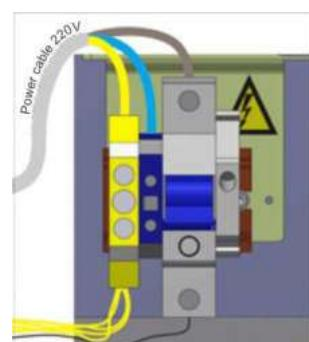
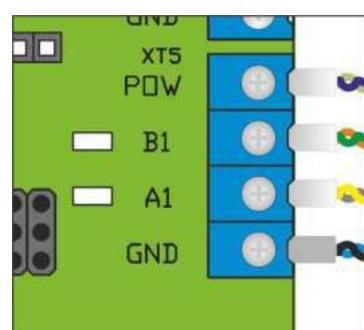

Fig. 22 – Connection of power supply cable
Fig. 23 – Connection of control desk link cable to terminals
a) Power supply cable ~230 V to be connected (Fig. 22):
- Neutral (N) to be connected to terminal ~230V (N);
- Earth (PE) to be connected to earthing terminal (PE)
b) Control desk link cable to be connected to terminals (Fig.23):